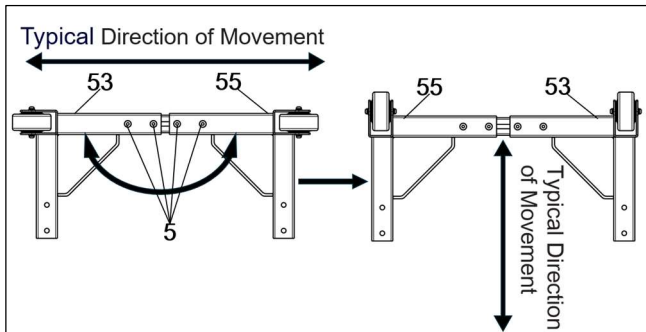

Fig.6
b. Choose the position of left fixed caster corner bracket "53" and right fixed caster corner bracket "55" according to the direction in which the machine will be moved. (see Fig.6)